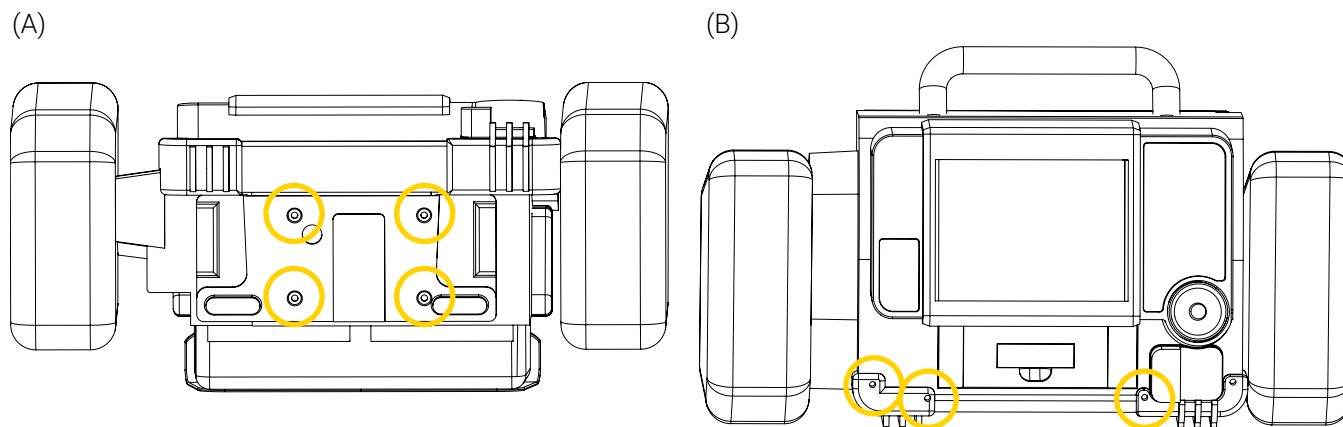

Figure 3: Preparing the medical device
If required, remove the four (4) screws under the medical device (Figure 3 A) and the three (3) screws on the front protector (Figure 3 B). Refer to the medical device manufacturer documentation for proper use and operation.